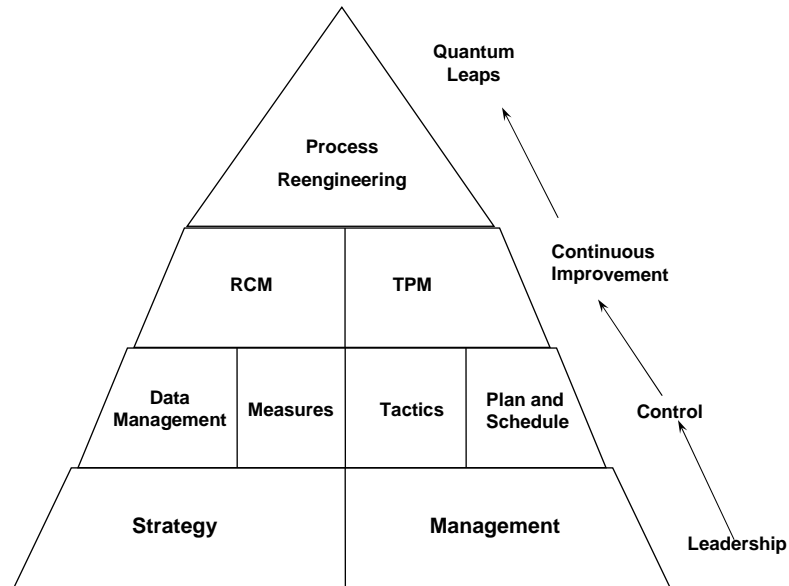

Figure 2. World Class Maintenance
- ❖ *Uptime* is structured in four parts: beginning with effective leadership, then gaining control of the maintenance functions advancing to continuous improvement activities, which set the stage for quantum leaps in asset productivity. Fig.2